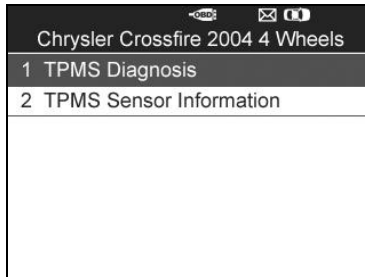

Figure 3.20
- 1) An option screen will appear, use **UP/DOWN** scroll button to select **TPMS Diagnosis** function in the menu, and press the **Y** button to continue. (Figure 3.20)
- If you wish to read the sensor make, OEM part no., and relearn information for the vehicle being serviced, please select **TPMS Sensor Information** in the above screen. (Figure 3.20)